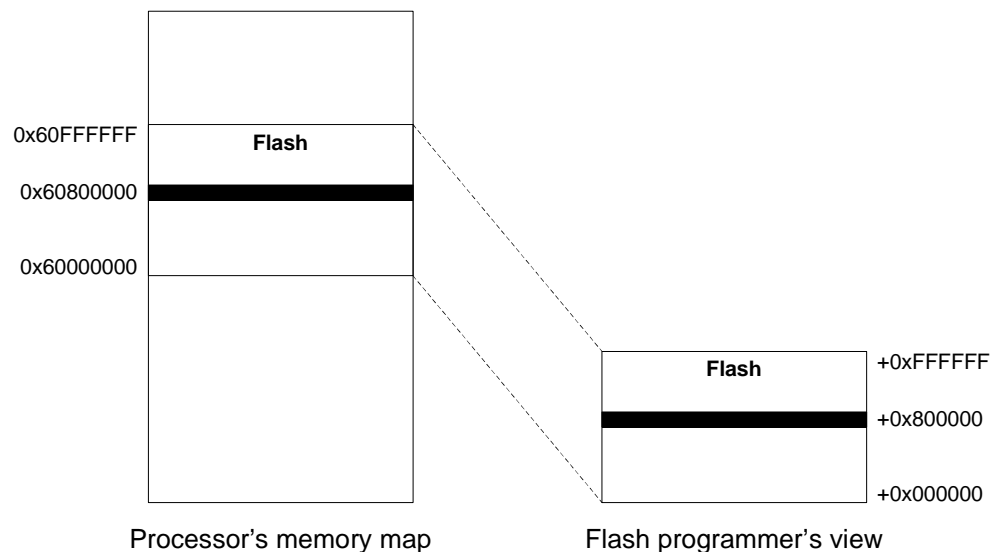

Figure 7 – Re-based addresses for flash memory initialization
- The addresses in the original Hex file might need to be re-based to a starting address of 0x00000000 because the Quartus II programmer loads flash relative to the flash memory base address. Figure 7 shows how the addresses differ between the processor's memory map and the Quartus II programmer for a section of data in flash memory.